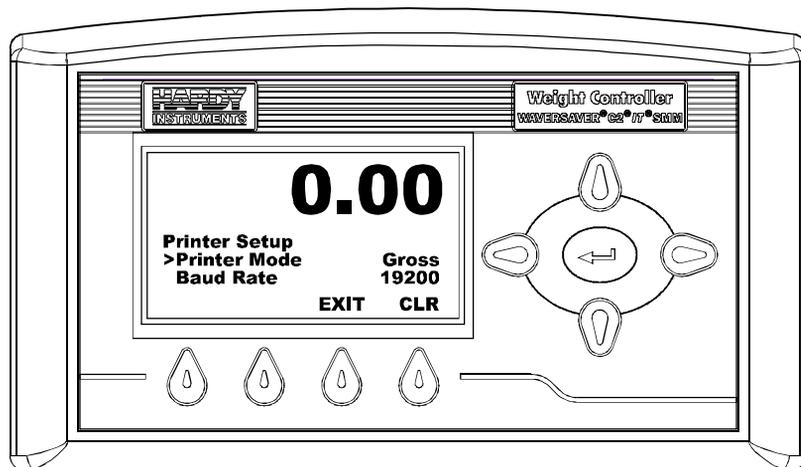

FIG. 91 PRINTER SETUP MENU/SELECTING PRINTER MODE
Step 2. Press the Enter button. The Printer Setup Menu appears. (See Fig. 91)